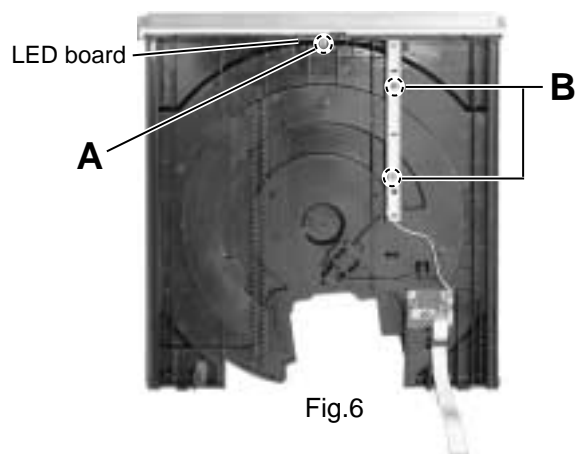

Fig.6
■ Removing the sensor board, the LED board and the turn table motor assembly (See Fig.6 to 9)